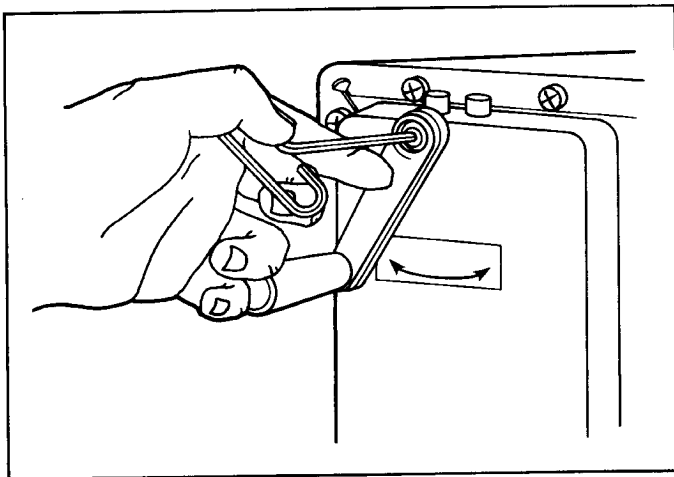

Figure 2
4. Attach the elevation control handle with the socket head bolt and lock washer (Figure 2). Tighten with the 5mm hex key.